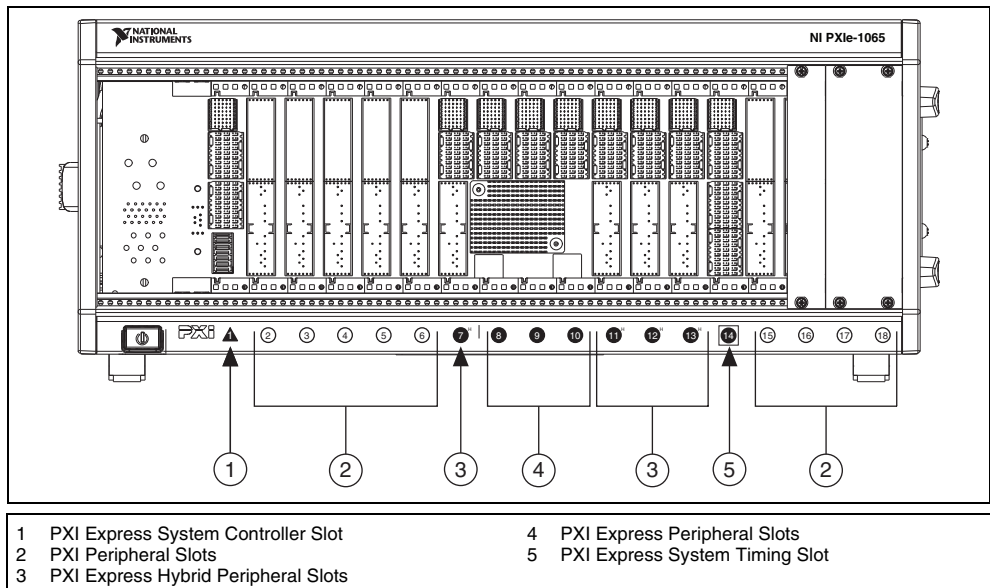

Figure 2. Symbols for PXI Express/PXI Express Hybrid/PXI Slots
2. Identify a supported PXI/PXI Express slot in the chassis. Figure 2 shows the symbols that indicate the slot types for a PXI/PXI Express chassis.